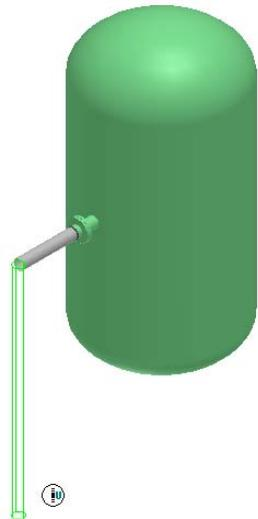

Figure 32: Placed Pipe
9. Now, key in **8 ft** in the **Length** drop-down list on the **Route Pipe** ribbon. Move the cursor downwards until SmartSketch displays the **U** glyph, as shown in Figure 32. Click in the graphic view to place the pipe.